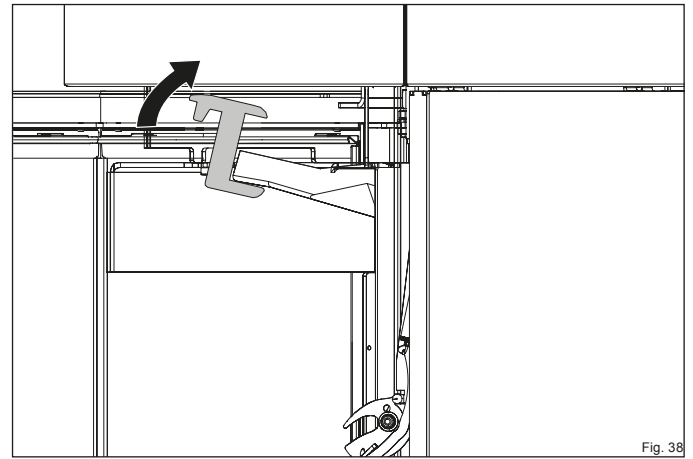

Fig. 38
- ▶ Turn the firebrick retainer to the front until the top fire brick comes out of the bracket (Figure 38).